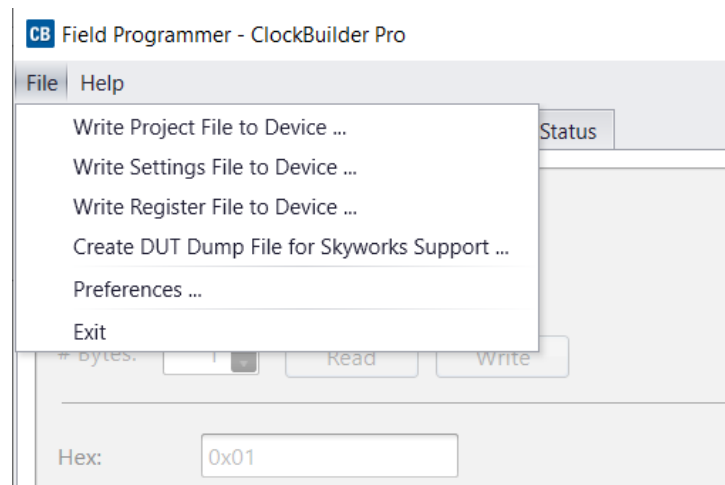

Figure 44. Write New Plan to Device (EVB GUI)
- b. If the IO\_VDD\_SEL bit is not correct, change the value and write the new value to the device (see Figure 44).